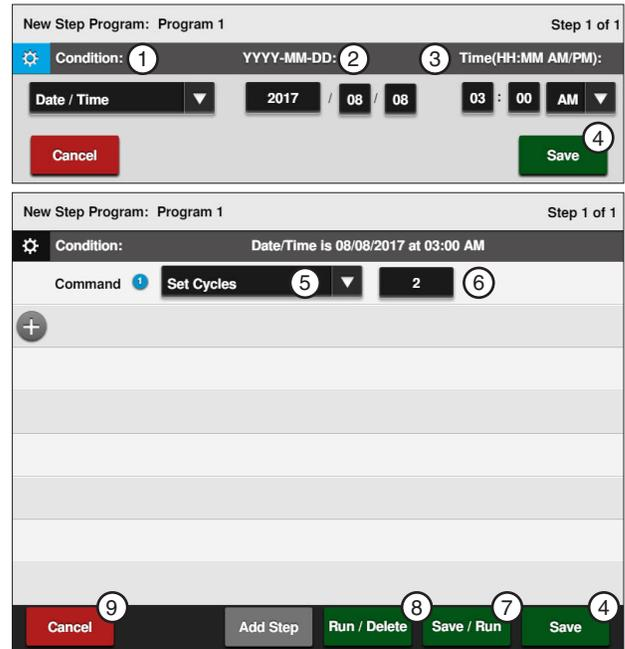

Figure 137-2 1. Date/Time Condition 6. Cycles
- a) Select the **Choose Condition** drop-down menu and choose **Date/Time**. Refer to Figure 137-2.
4. Enter the command to be executed at that time. Refer to Figure 137-2.
5. Finish the program by selecting one of the following. Refer to Figure 137-2.